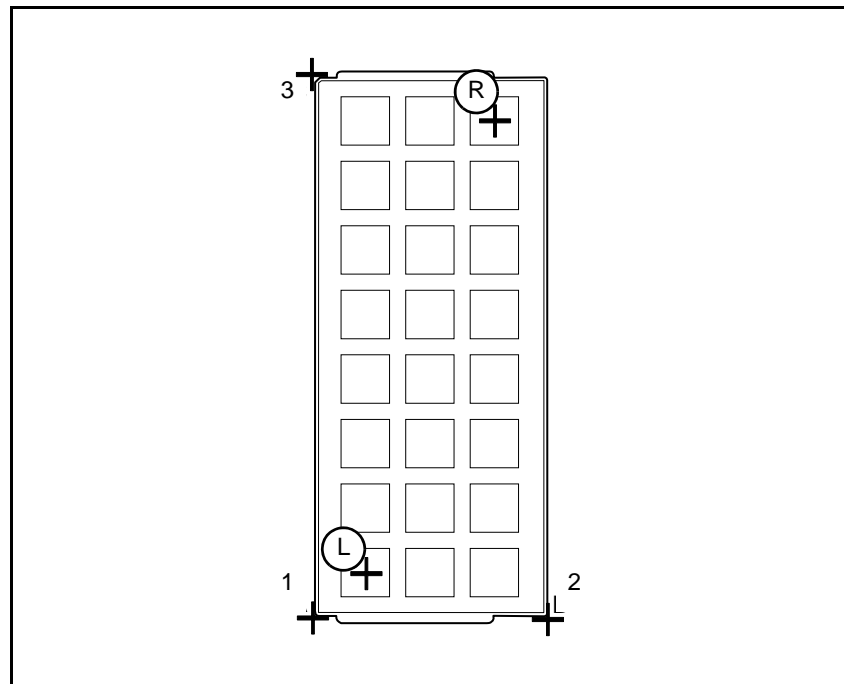

Figure 7-13. Matrix tray corners and component positions.
You can use any feature on the matrix tray as corner. If you intend to use the tray position feature for this tray type, you must use outer corners. In Figure 7-13, suitable outer corners for tray position usage are marked '1', '2' and '3'.
4. Locate the lower left component ('L' in Figure 7-13) by following the instructions on the screen.
7. Locate the upper right component ('R' in Figure 7-13) by following the instructions on the screen.